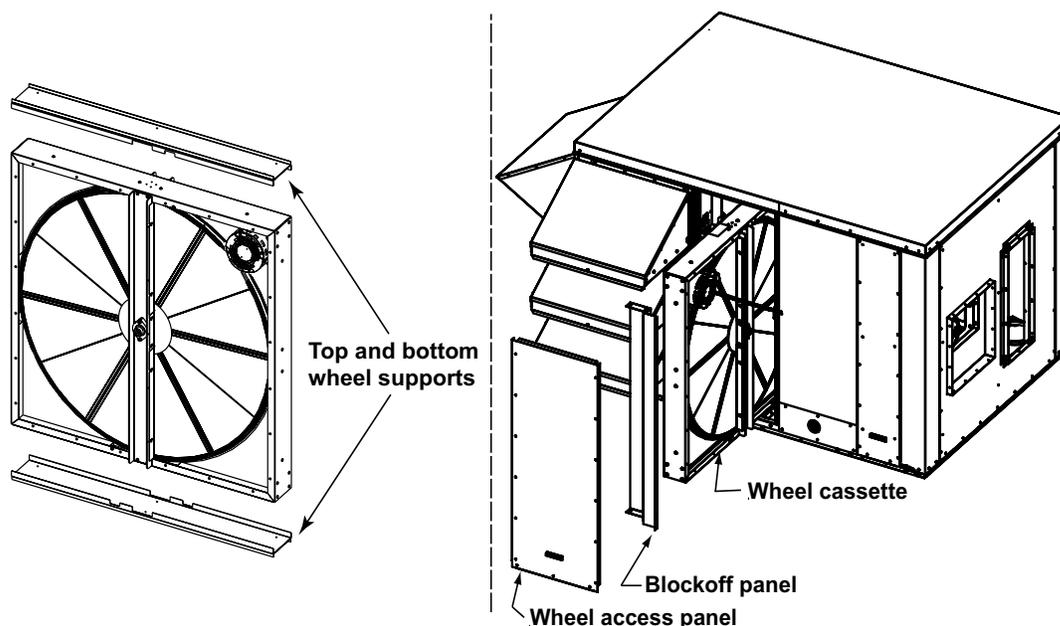

Figure 40. Energy Recovery Wheel Cassette Removal
2. Remove wheel cassette (see Figure 40) as follows:
9. Reinstall wheel cassette (see Figure 40) as follows: